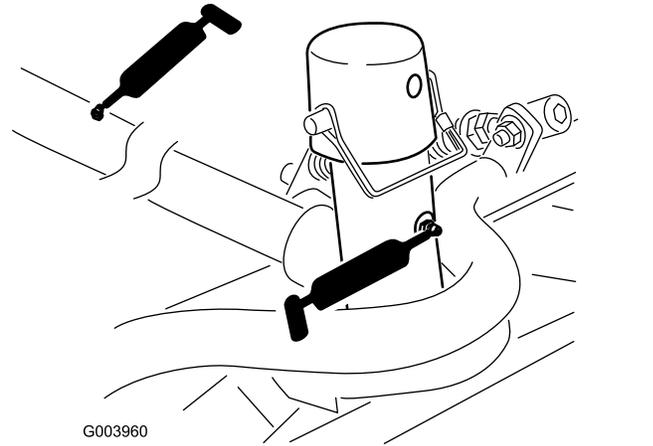

Figure 72
- Cutting-unit carrier-frame and pivot (2 each) (Figure 72)